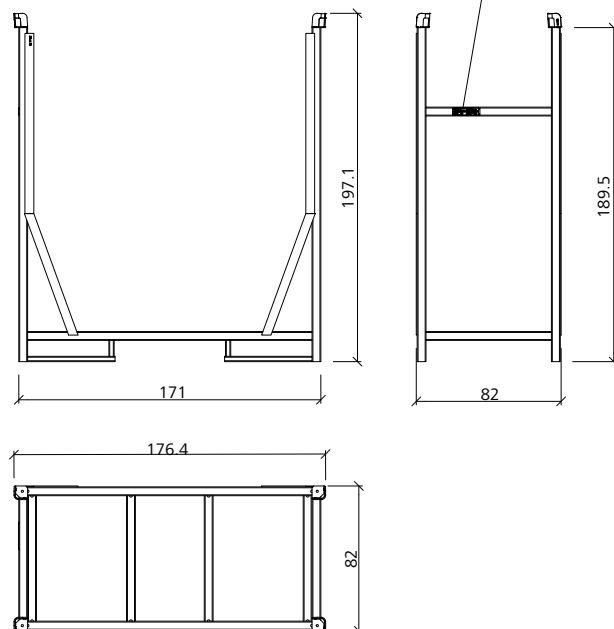

Fig. 1
- The S.-MevaDec-e transport rack must not be used if the data plate is missing or if the load capacity data is illegible (Fig. 1 and Fig. 8).